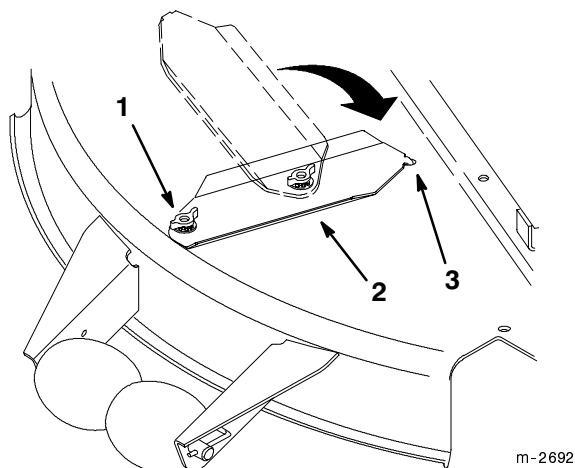

Figure 33
7. Slide the wing nut and front cover shaft to the "OPEN" position on the deck to swing the front cover to the side discharge position (Fig. 33).
8. Insert the tab on the end of the slot cover back into the slot in the deck (180 degrees from its original position), then tighten the wing nut on the front cover shaft (Fig. 33).